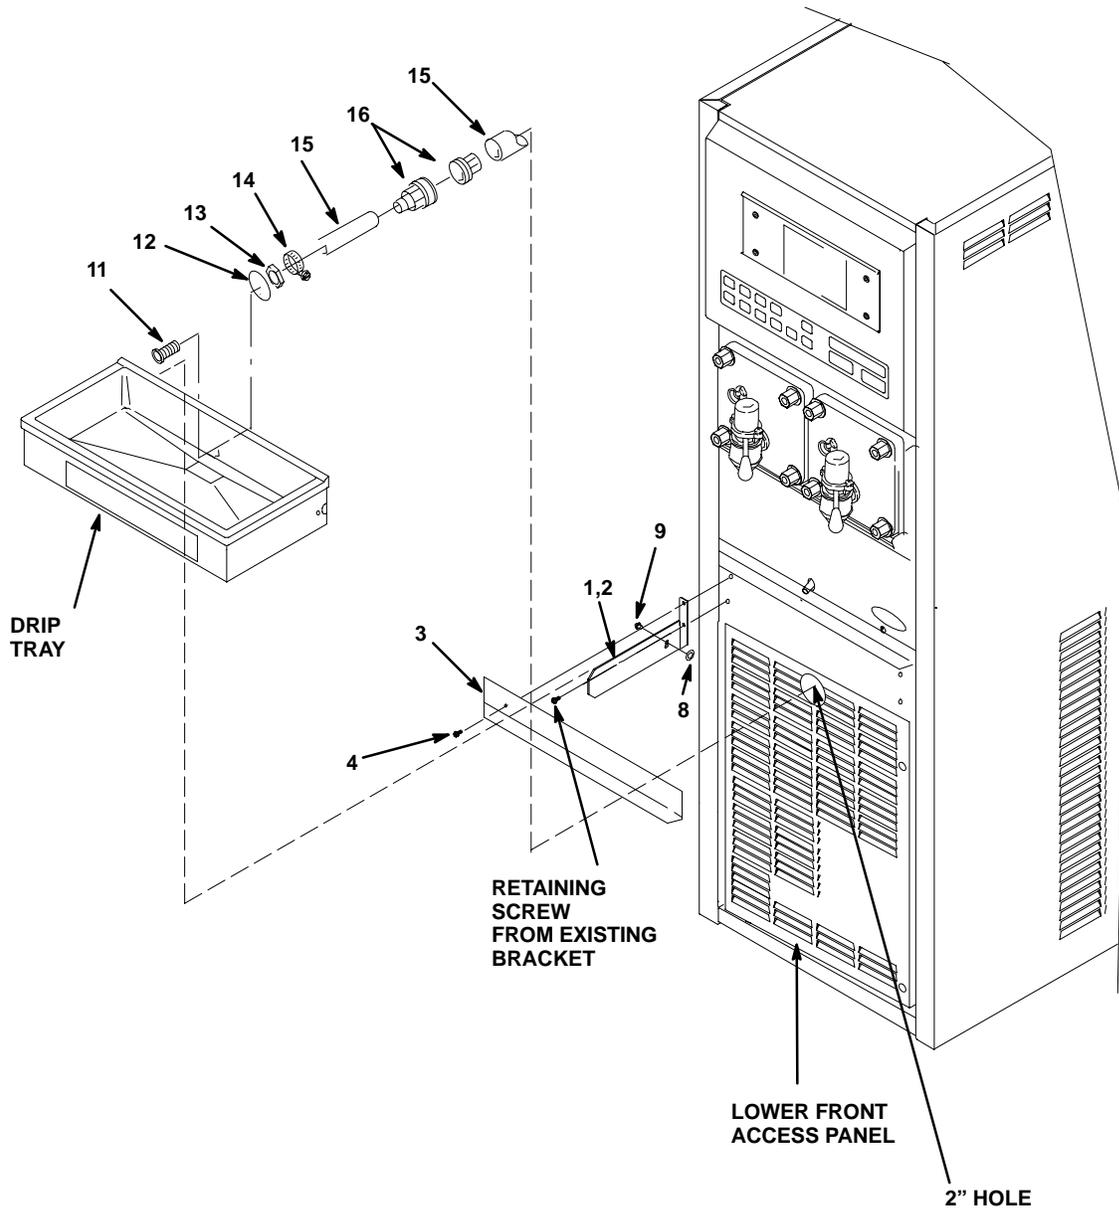

FIGURE 2.
Kit (P/N 3158) for electronic Two-Flavor Units (see Figure 2).
5. Install DRAIN FITTING (item 11) in drip tray and secure with LOCKWASHER, INTERNAL TOOTH (item 12) and HEX NUT (item 13).
6. Cut a five-inch piece of hose from DRAIN HOSE (item 15).
7. Install one half of the COUPLER, DRAIN HOSE (item 16) on one end of the five-inch piece of drain hose. Install other half of the drain hose coupler on the seventy-inch piece of drain hose.
8. Connect five-inch piece of drain hose to drip tray fitting. Secure connection with DRAIN HOSE CLAMP (item 14).
10. Install DOOR ACCESS FILLER (item 3) on front of Unit and secure with MACHINE SCREWS (item 4) as shown in Figure 2.